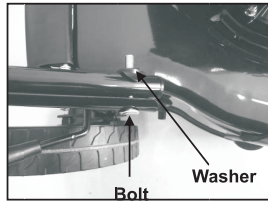
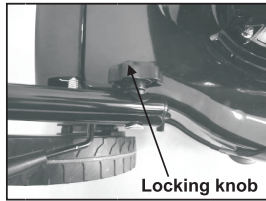

Fig.2A
Fig.2B
1. Fix the lower handlebars into the unit body with bolts, washers and locking knobs. (Fig. 2A /Fig.2B)